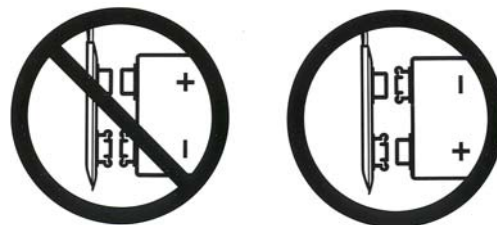

Figure 15 Smartap® Battery Connections
24. Disconnect battery. The battery connection is a snap type connector (Figure 15).
NOTE: Use caution when reconnecting the battery (Figure 15).